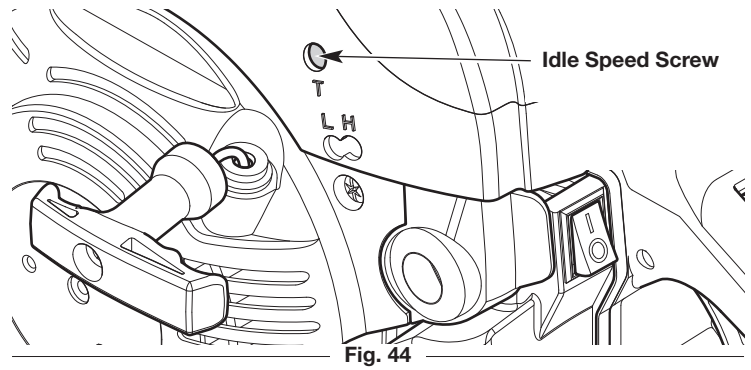

Fig. 44
- If the engine stops, increase the idle speed. Use a small Phillips screwdriver to turn the idle speed screw clockwise, 1/8 of a turn at a time, until the engine idles smoothly (Fig. 44).
- If the saw chain spins when the engine idles, reduce the idle speed. Turn the idle speed screw counterclockwise, 1/8 of a turn at a time, until the saw chain stops moving (Fig. 44).